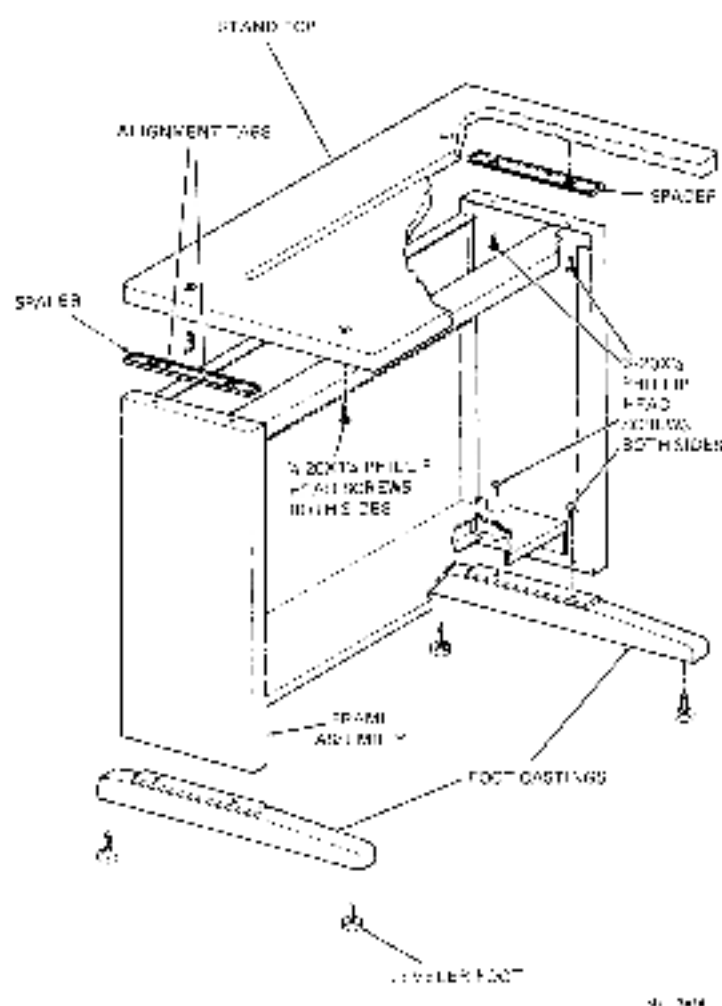

Figure 3-12 Printer Stand Assembly
The only tool required to assemble the printer stand is a Number 1 phillips screwdriver. To assemble the LAX34-SL printer stand (Figure 3-12) perform the following procedure:
4. Place the spacers on the stand top. Make sure that the alignment tabs on the spacers are in place as shown in Figure 3-12.